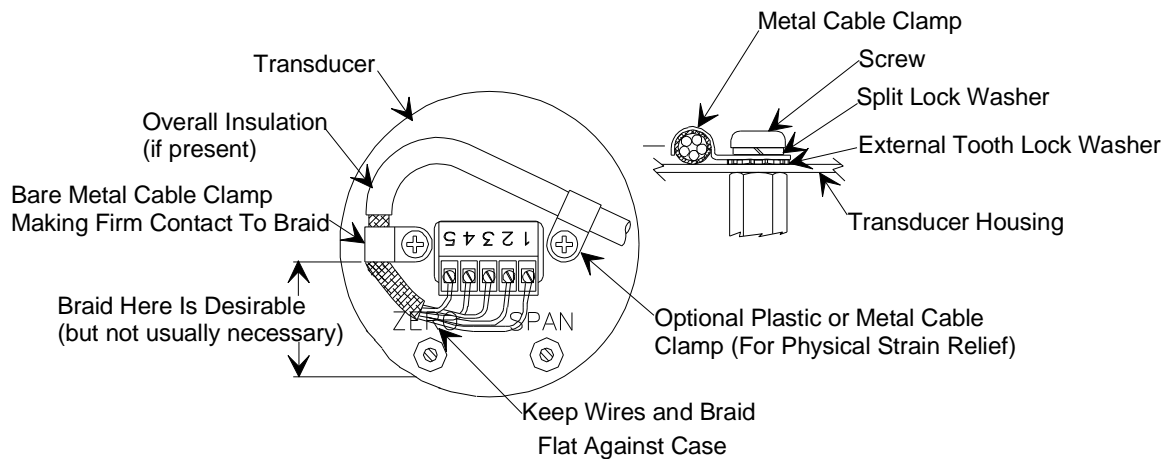
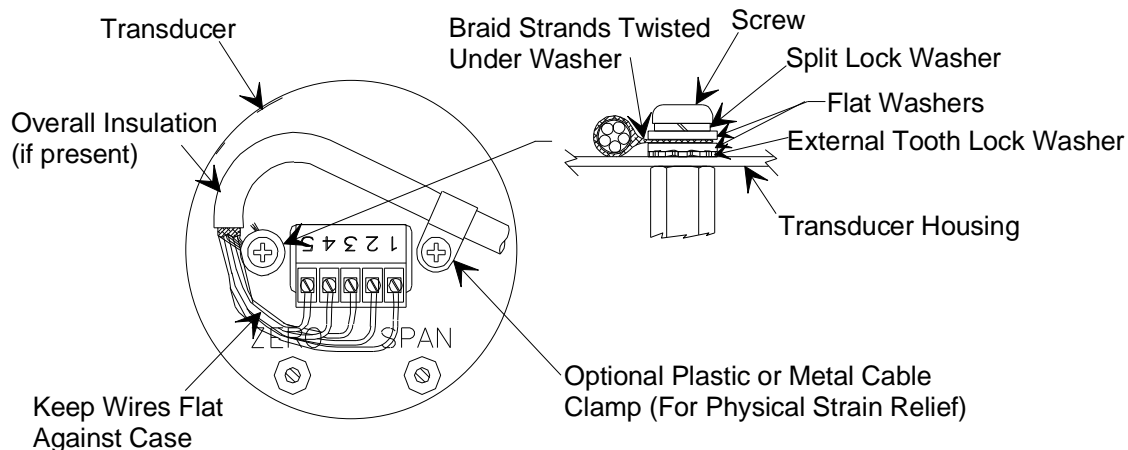

Figure 2: How To Connect the Cable to a Terminal Block (Example 1)
Figure 3: How To Connect the Cable to a Terminal Block (Example 2)
4. For shielded cables with flying leads at one or both ends; it is important at each such end, to ground the shield *before* the wires exit. Make this ground with absolute minimum length. Refer to Figures 2 and 3, page 56. (A ¼ inch piece of #22 wire may be undesirably long since it has approximately 5 nH of inductance, equivalent to 31 ohms at 1000 MHz). After picking up the braid's ground, keep wires and braid flat against the case. With very few exceptions, grounded metal covers are not required over terminal strips. If one is required, it will be stated in the Declaration of Conformity or in the instruction manual.
The cable to the terminal block connector must be firmly attached to the top of the transducer, in order to comply with CE Mark requirements. Figure 2 shows the preferred method to connect the cable; using a metal cable clamp to affix the cable to the transducer. Figure 3 shows an alternate method; wrapping the braided shield under the screw. Both examples show the cable securely clamped to the transducer.